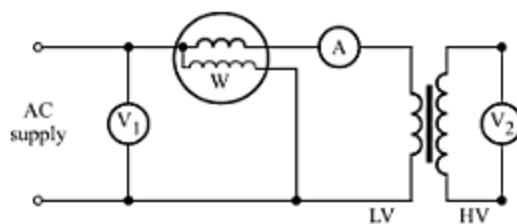

Fig. 13.24 Open-circuit test on a transformer.
This test determines the no-load current and the parameters of the exciting circuit of the transformer. The transformer is connected as shown in Fig. 13.24. Generally, the low voltage (LV) side is supplied rated voltage and frequency through an autotransformer (also called a *variac*). The high voltage (HV) side is left open. The ratio of the voltmeter readings,  $V_2/V_1$ , gives the transformation ratio of the transformer. The reading of ammeter A,  $I_0$ , gives the no-load current  $I_0$ , and its reading is a check on the magnetic quality of the ferromagnetic core and joints.